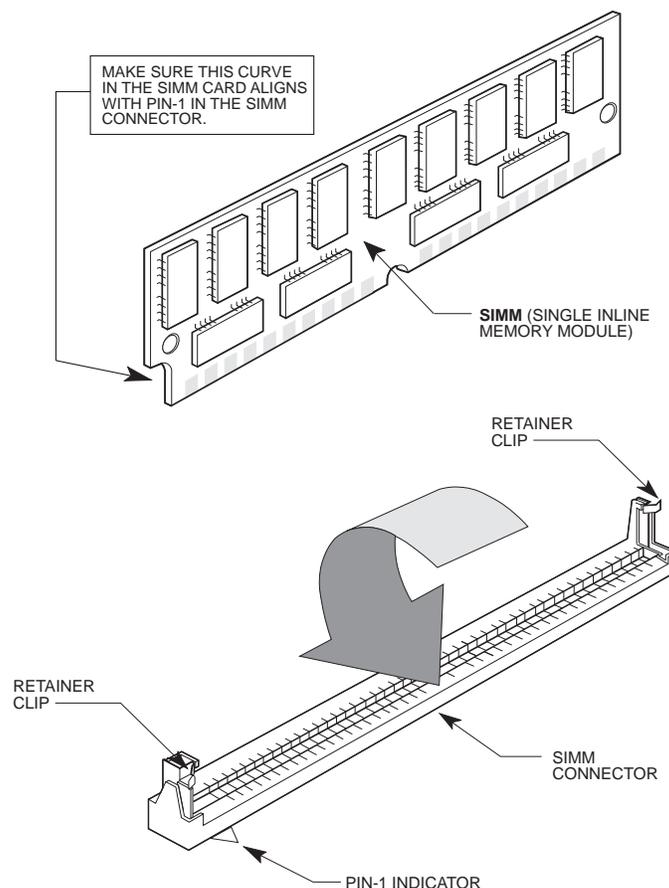

Figure 3-2: AM-138-10 SIMM Module Installation
1. Insert one SIMM (the larger if the SIMMs aren't of equal capacity) in connector J10. Align pin-1 at the notched end of the SIMM module with pin-1 on the connector, as in Figure 3-2.